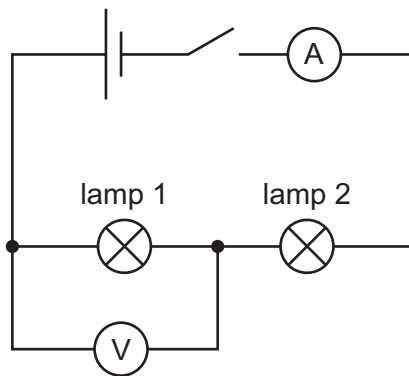

Fig. 2.3
- (vi) sufficient connecting leads to construct the circuit shown in Fig. 2.3